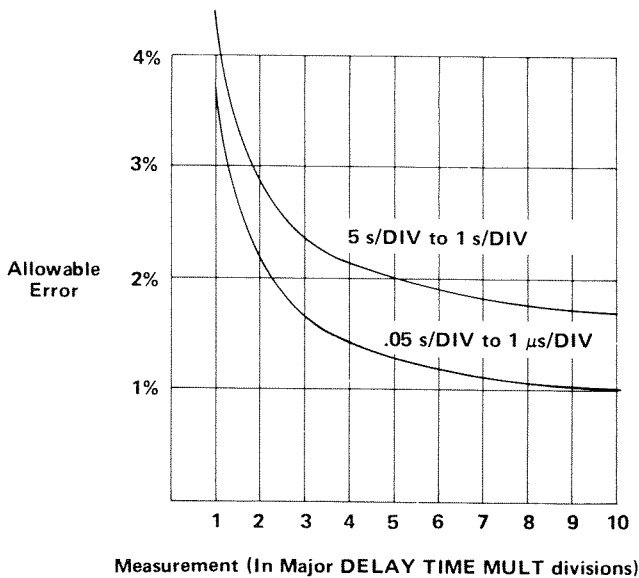

Fig. 4-3. Allowable Delay Time Error.
e. CHECK—Scan the figures recorded in step d for all difference readings over the center eight divisions (see Fig. 4-2). Find the maximum error over any one division measurement. Check that it is within the allowable error (see Fig. 4-3).
Example. Refer to the curve in Fig. 4-3 for the 0.5 s/DIV to 1 μ s/DIV delay time range. For any one-division measurement the allowable error is 3.7%. At the same delay time range, for any five-division measurement the allowable error is 1.3%.
(see Fig. 4-2). Find the maximum error over any two division measurement, divide by two, and check that it is within the allowable error given in Fig. 4-3.
g. CHECK—Scan the figures recorded in step d for difference readings over the center eight divisions (see Fig. 4-2). Find the maximum error over any four division measurement, divide by four, and check that it is within the allowable error given in Fig. 4-3.
h. CHECK—Scan the figures recorded in step d for difference readings over the center eight divisions (see Fig. 4-2). Find the maximum error over an eight-division measurement, divide by eight, and check that it is within the allowable error given in Fig. 4-3.